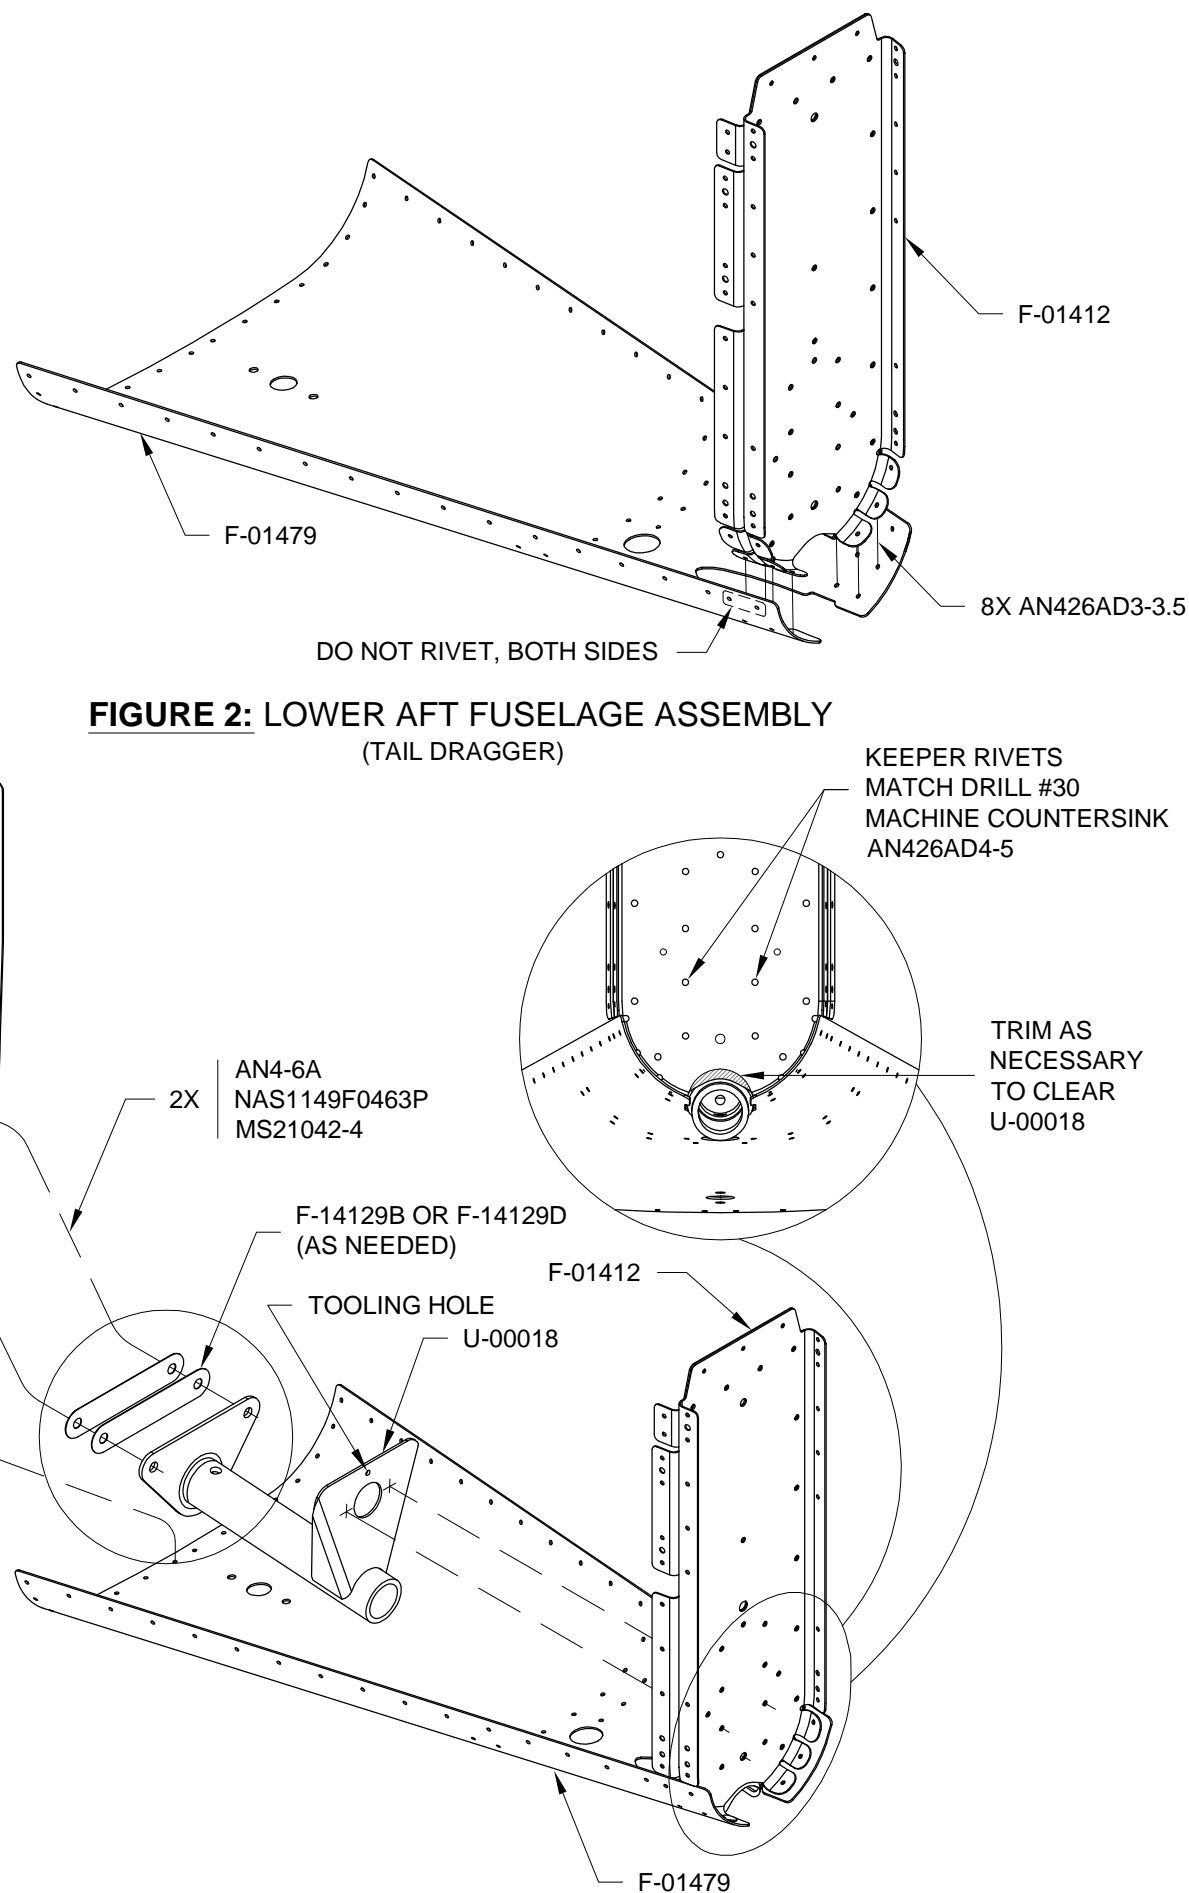

FIGURE 2: LOWER AFT FUSELAGE ASSEMBLY
Step 8 (Tail Dragger): Rivet the F-01479 Aft Bottom Skin to the F-01478 Bottom Skin and F-01410 Bulkhead. See Page 10-19 Figure 2.